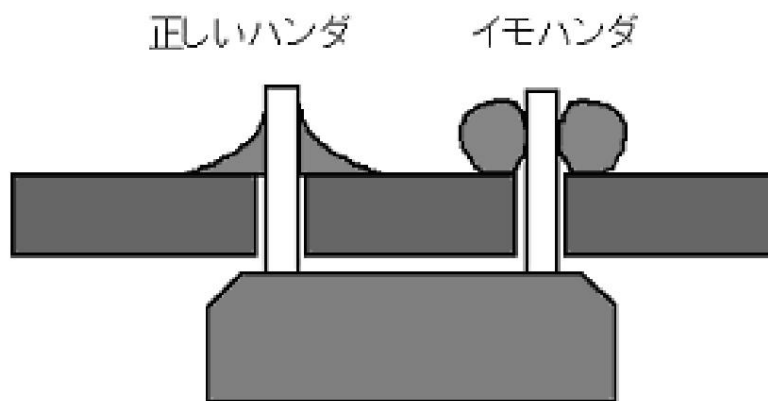

Figure 22: Correct solder and immo solder
- ☐ As shown in Fig. 22 , there is no point where the solder touches the substrate or copper foil, which is called immo solder. mosquito? If the body of the part is shaken and the lead at the soldering point moves, it is almost certainly immo-soldered. Immo solder will peel off over time, so if you find it, re-solder it.